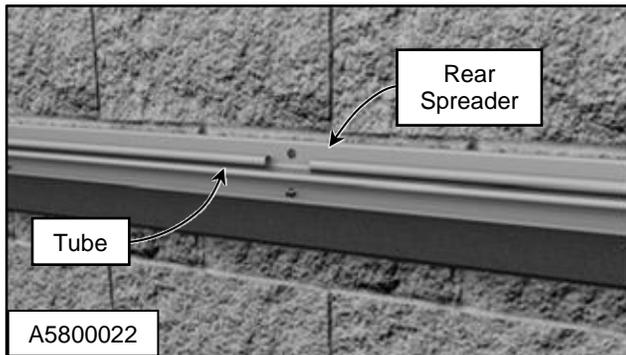

**Figure 31**
1. Connect cables to LED connectors. (See Figure 31)
*NOTE: Head assembly has been removed to show clarity of the LED connectors. (See Figure 31)*